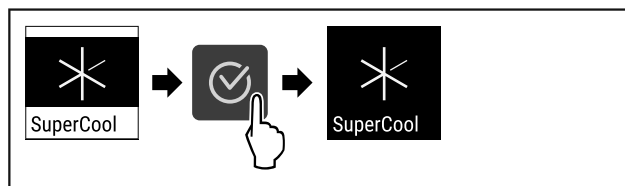

Fig. 73
- ▶ Complete steps (see Fig. 73).